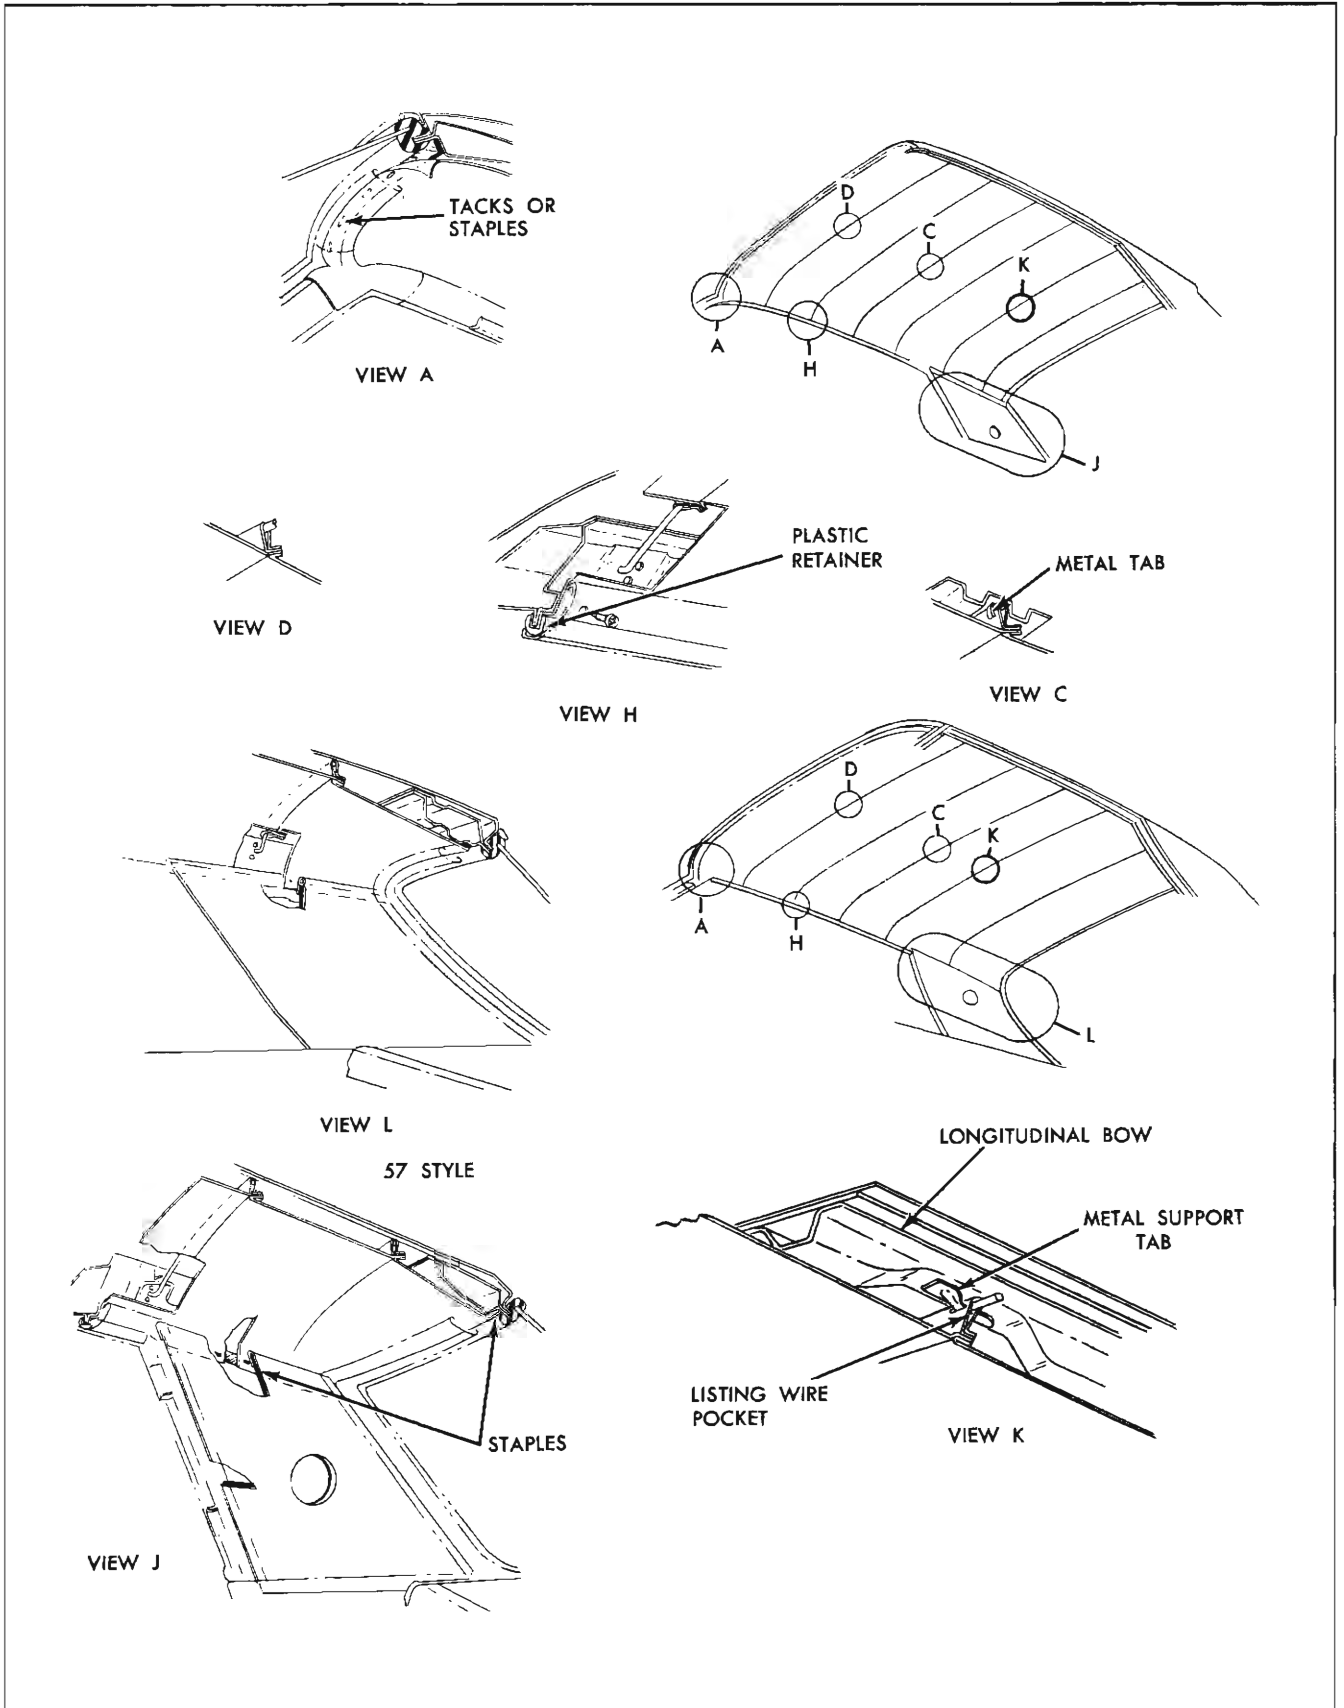
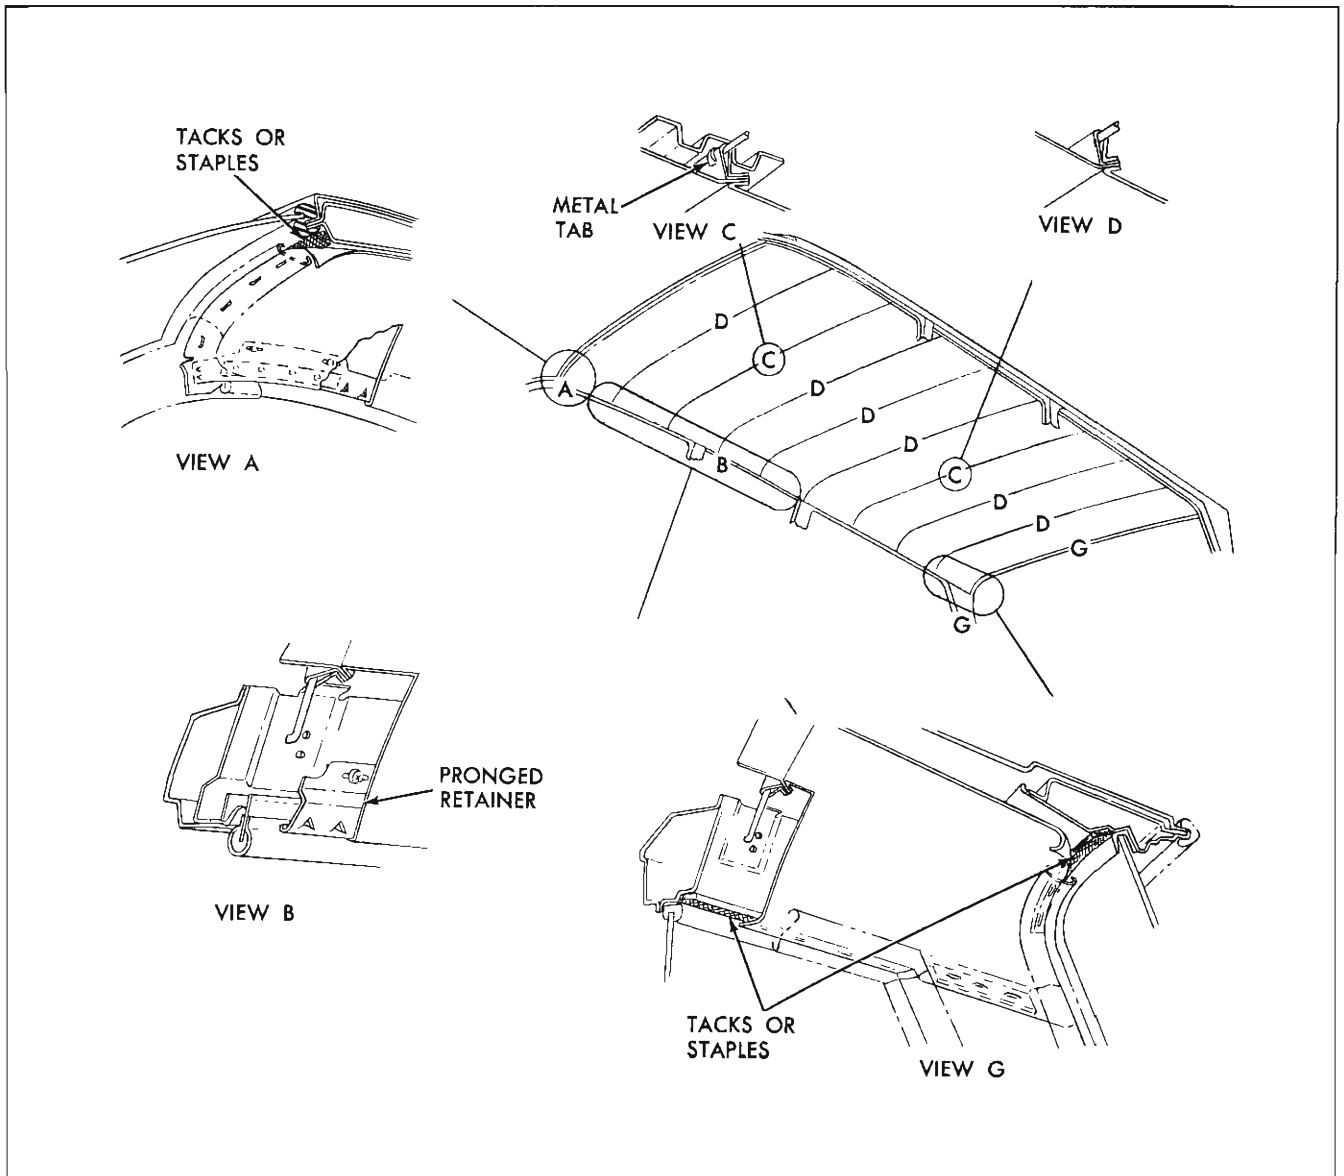
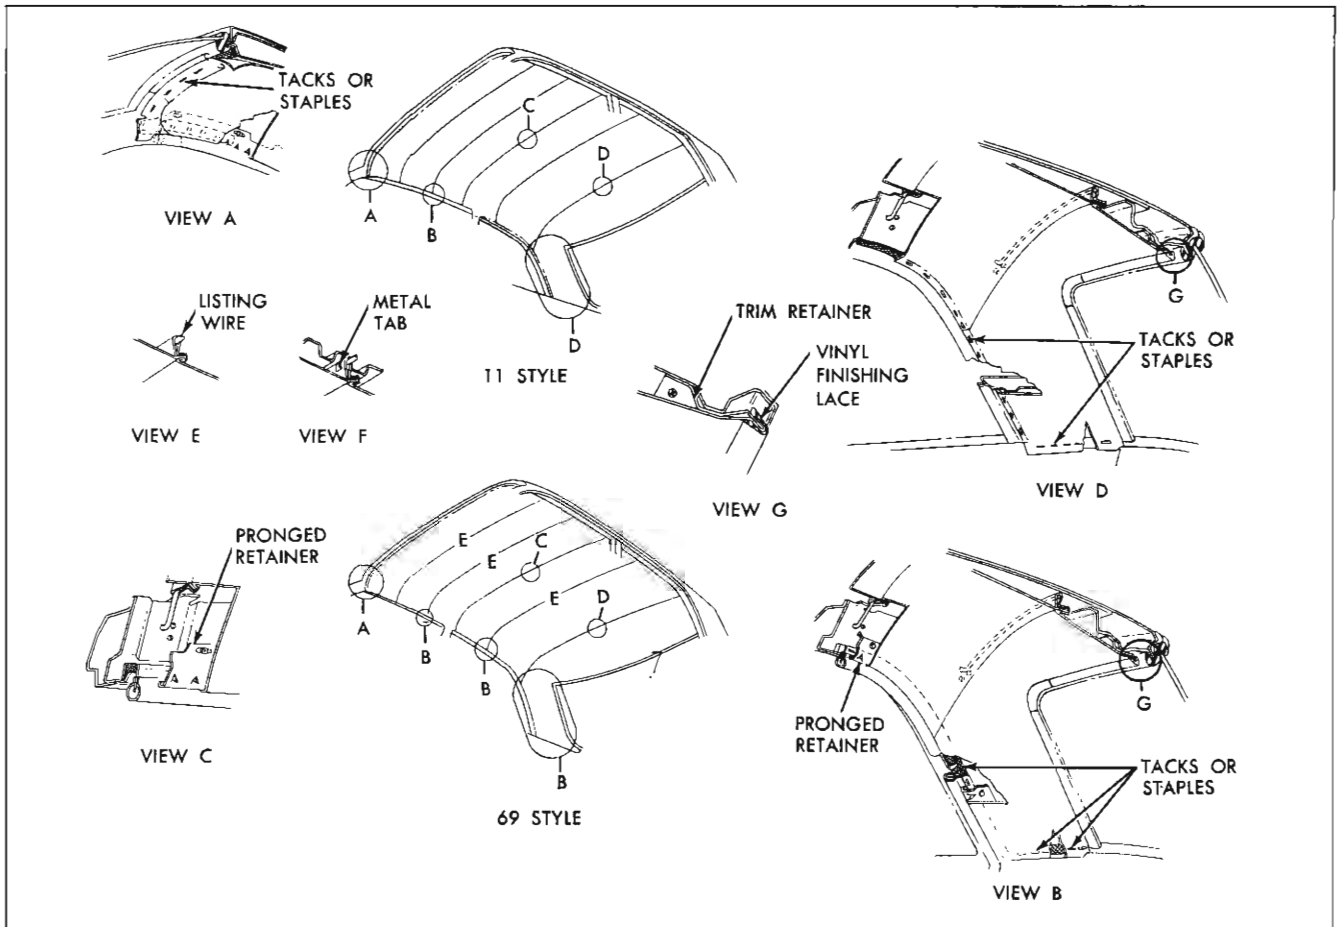

Fig. 7-1 Headlining Installation - 39 and 57 Styles
Fig. 7-2 Headlining Installation - 35 and 45 Styles
Fig. 7-3 Headlining Installation - 11 and 69 Styles
4. On 11, 69, 35 and 45 styles, use headlining inserting tool J-2772 or similar wide-bladed tool and carefully disengage headlining from pronged retainer on side roof rails over door openings. (view B, Fig. 7-2 and view C, Fig. 7-3).
On 39 and 57 styles, remove plastic retainer from side roof rail pinchweld flange (view H, Fig. 7-1).
5. On 35 and 45 styles, remove tacks or staples securing headlining at rear quarter windows (view G, Fig. 7-2).
6. On 11 and 69 styles, remove back window finishing lace (view G, Fig. 7-3).
7. On 2311 style, remove tacks or staples securing headlining at rear quarter windows (view D, Figure 7-3).
manner, working from rear of body disengage remaining listing wires (except No. 3) (see view K, Fig. 7-1). Keep headlining material clean.
12. At No. 1 roof bow, bend down metal tabs securing No. 3 listing wire (see view C, Fig. 7-1).
4. Working forward on 11, 35, 45 and 69 styles, install ends of listing wires in holes in side roof inner rail assemblies. Bend up metal tabs at roof bow securing listing wire and listing wire pocket (see view F, Fig. 7-3 and view C Fig. 7-2).
5. On 39 and 57 styles, install No. 3 listing wire and listing wire pocket over metal tabs on No. 1 roof bow. Bend up metal tabs so listing wire is securely fastened to roof bow (see view C, Fig. 7-1). Be certain headlining material is centered in body. If new headlining is being installed, slit listing wire pockets at each tab location on longitudinal bow (approximately 1 1/2" in length) (see view K, Fig. 7-1). Working rearward from No. 3 listing wire, install listing wires into holes in side roof inner rails and over tabs on longitudinal bow. In like manner, working forward, install No. 2 and No. 1 listing wires.
9. Carefully tuck edge of headlining material under pronged retainer above door openings on 11, 35, 45 and 69 styles (see view C, Fig. 7-3). Using
headlining inserting tool, permanently install edge of headlining around pinchweld flange of door openings on 39 and 57 styles (see view H, Fig. 7-1).
12. Permanently secure headlining by tacking at windshield, back window and upper rear quarter areas (see views A, B, and D in Fig. 7-3, views A, J, and L in Fig. 7-1, view A and G in Fig. 7-2).
13. Install plastic retainer along pinchweld flange of door and quarter window openings on 39 and 57 styles (see view H, Fig. 7-1.) Retainer should be evenly installed.